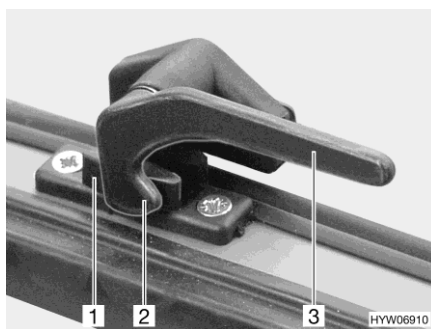

Fig. 43 Catch lever in "closed" position
- Turn the catch lever (Fig. 43,3) a quarter turn towards the centre of the window.
- Turn the catch lever (Fig. 43,3) a quarter turn towards the window frame. The locking catch (Fig. 43,2) is located on the inside of the window catch (Fig. 43,1).
- "Firmly closed" (Fig. 43)